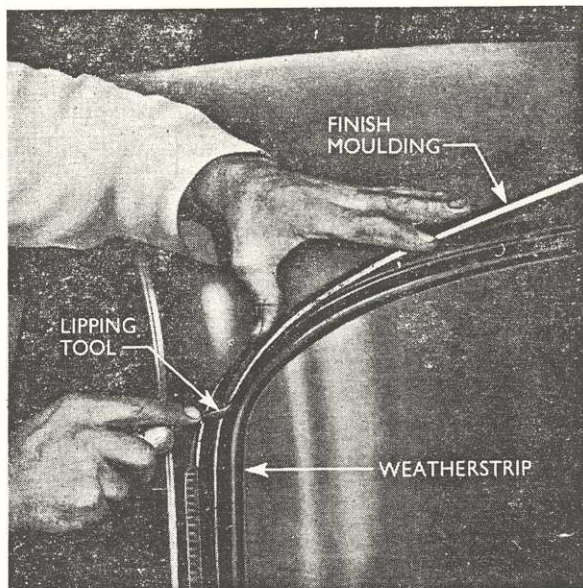

Fig. 8
11. Lubricate the weatherstrip groove and commence fitting the chrome mouldings. It will be found more satisfactory to insert the outside edge of each moulding under the weatherstrip and then using the lipping tool ease the inside lip of the weatherstrip over the moulding at the same time pressing it back into position (see Fig. 8).